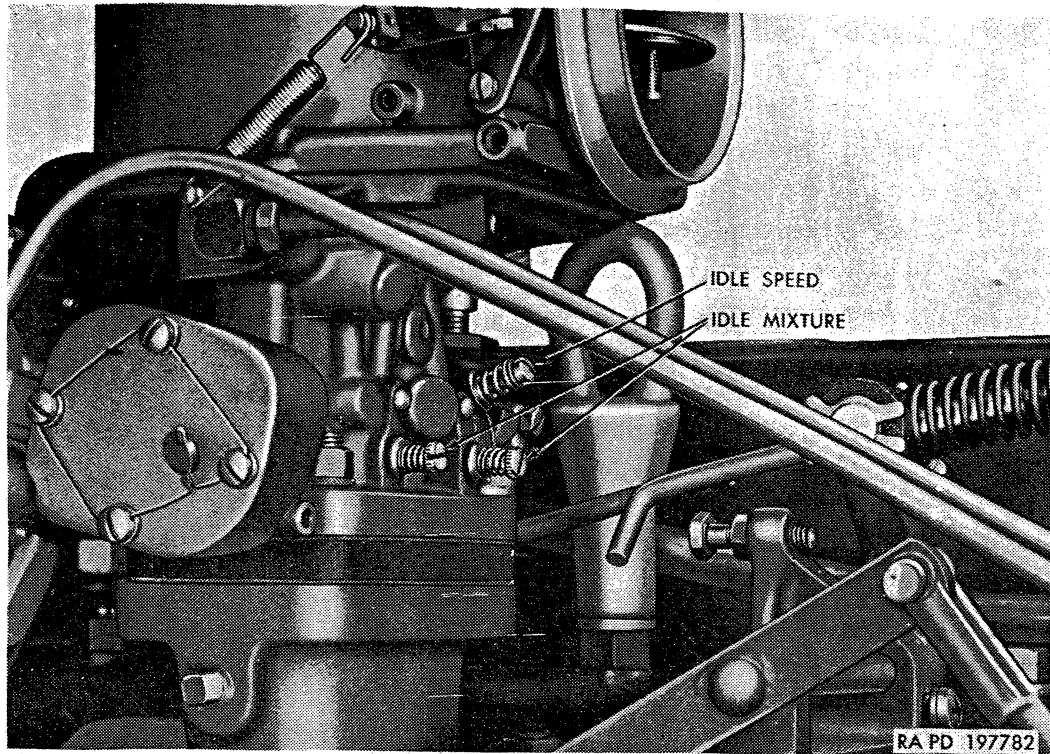

Figure 123. Carburetor adjusting screws.
*b. Adjustments.* One screw is provided at carburetor for setting engine idling speed, and idling mixture is controlled by two adjustable screws (fig. 123). Electric-type tachometer (fig. 190) designed to operate from ignition primary circuit must be available for use in making idling speed adjustment. Vacuum gage must be used as well as tachometer when adjusting carburetor idling mixture.
- (2) *Idling mixture adjustment.* Connect electric tachometer at ignition distributor as described in (1) above. Remove pipe plug from special elbow in intake manifold below carburetor and attach vacuum gage. Start engine and run until engine temperature reaches 160° to 220° F. Turn idling mixture screws (fig. 123) at rear of carburetor body one at a time to obtain highest reading on vacuum gage with steady indicator. Recheck engine speed indicated on tachometer and readjust